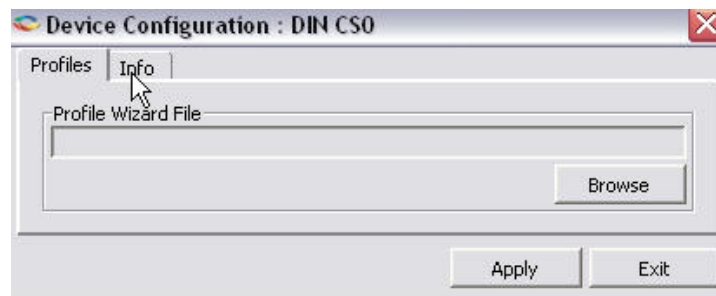

Figure 11 - Mini-PBX - Device Configuration
5. After double clicking on the line module location, a new window will open as shown in Figure 11. The user should click the "Browse" button and select the newly created *.c Profile Wizard* file.